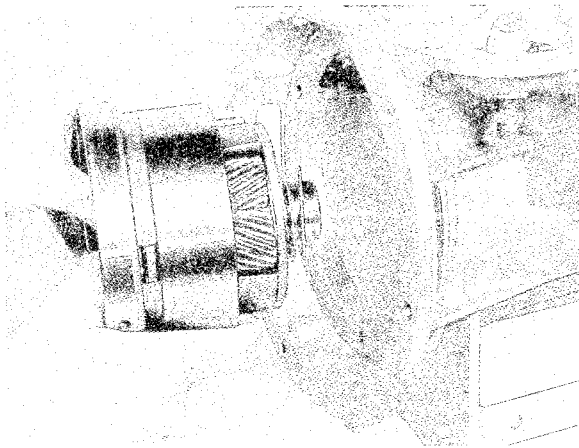

Fig. 4-99. Installation of center support and planet gears with needle thrust bearing and plate washer
7. Assemble the planet gear, one-way clutch and center support, see Fig. 4-99. Stick the thrust plate and needle thrust bearing to the planet cover with vaseline.